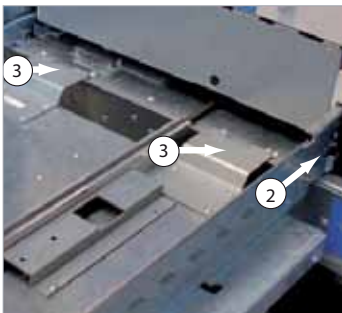

Fig. 4.9
- Approach trolley to the panel so that the lateral guides (Fig. 4.9, 2) are close to the panel, and turn lever (1) back to the right. The trolley is locked on the panel (3).